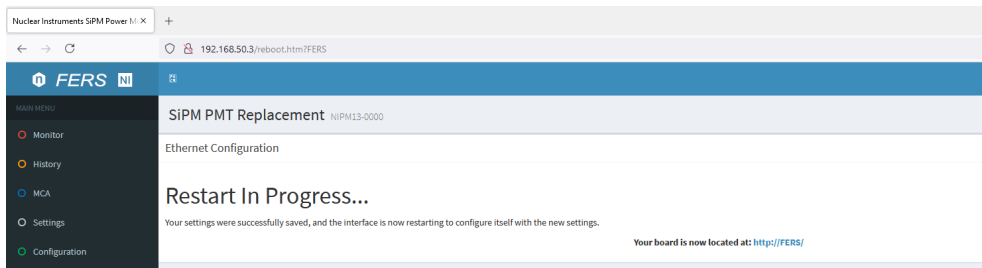

Fig. 3.18: Displayed message once the IP address of the board has been correctly changed.
- Press on the Save and Restart button in the bottom part of the Tab, a message like that shown in **Fig. 3.18** will be displayed. The A5202/DT5202 board has been assigned with the selected IP address.